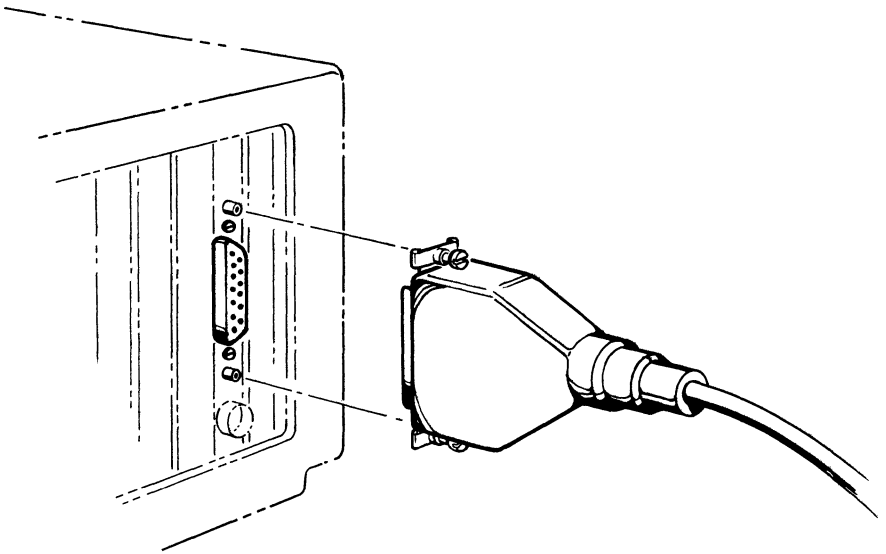

Figure 2-11. Attaching the Adapter Plate
3. Plug the adapter plate assembly into the 15 pin connector on the EtherLink card, as shown in figure 2-11. Tighten the screws on the adapter plate into the threaded jackposts on the EtherLink card.